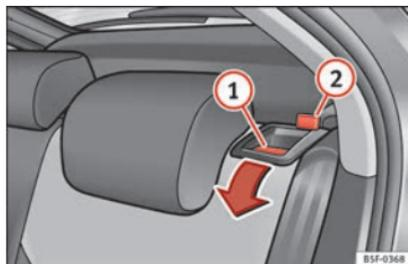

Fig. 110 Backrest release lever.
- Press the release lever » **Fig. 110** ① in the direction of the arrow.
- Raise the backrest until it engages in its upright position » ⚠. The red marking on the tab » **Fig. 110** ② should no longer be visible when the backrest is properly secured.